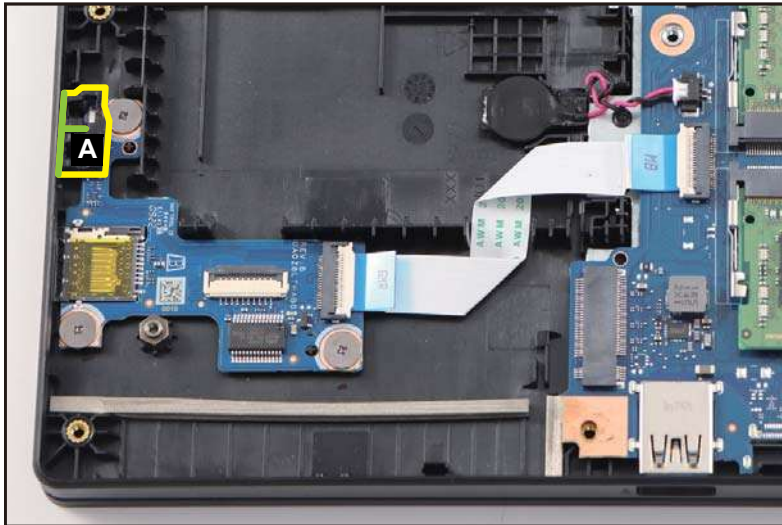

Figure 3-43. Card Reader Board Removal
1. Detach the sponge (A) from the card reader board (Figure 3-43).